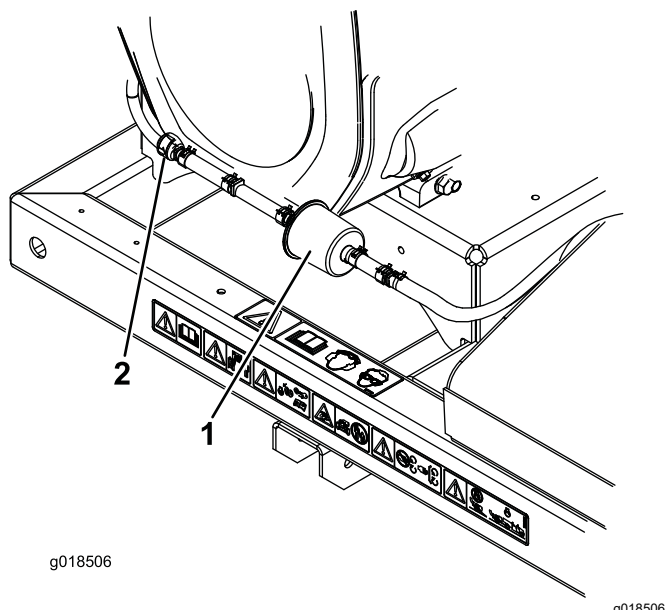

Figure 39
2. Move the spring-type hose clamps on both sides of the carbon canister purge-line filter away from the filter (Figure 39).
3. Remove and discard the carbon filter (Figure 39).
4. Install a new filter into the hose with the arrow on the filter pointing toward the check valve and secure it with the hose clamps (Figure 39).